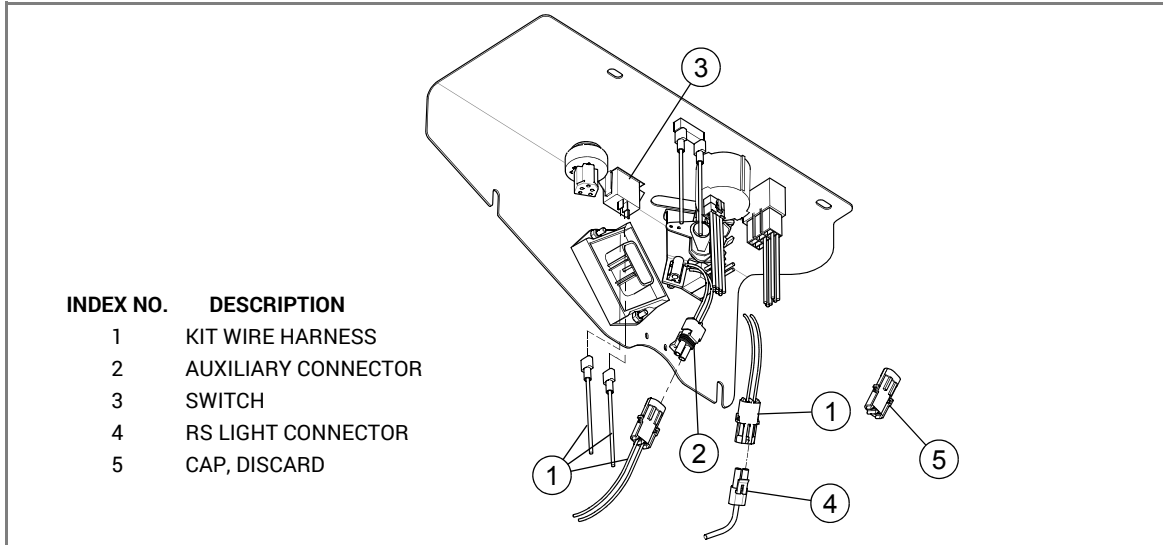

FIG. 7
14. Connect the female blade terminals on the new wire harness to the switch (polarity is not critical). FIG. 7
15. Remove and discard the cap from the auxiliary connector. Plug the kit wire harness connector to the auxiliary connector. FIG. 7
16. Plug the right side light connector into the kit wire harness connector under the control panel. FIG. 7